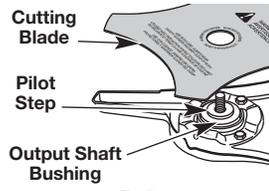

Fig. 7
1. Place the cutting blade on the output shaft bushing (Fig. 7).